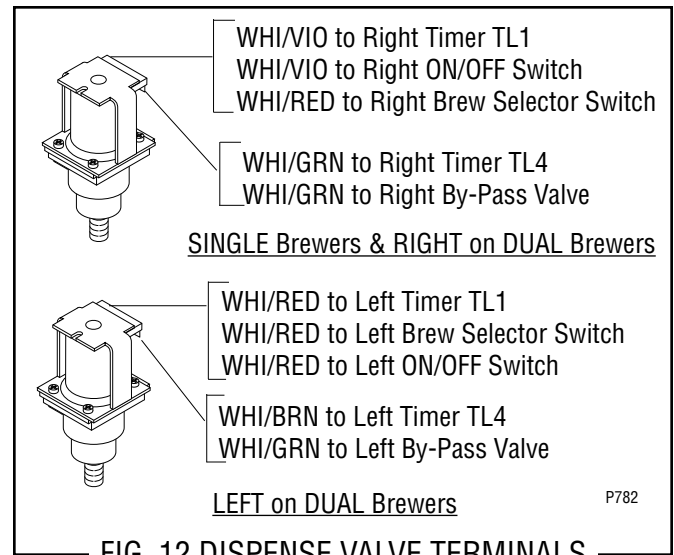

FIG. 12 DISPENSE VALVE TERMINALS
6. Refer to Fig. 12 when reconnecting wires.